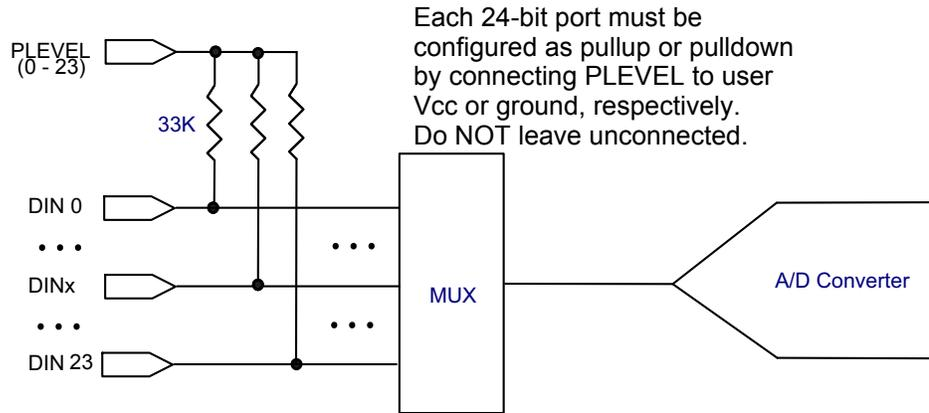
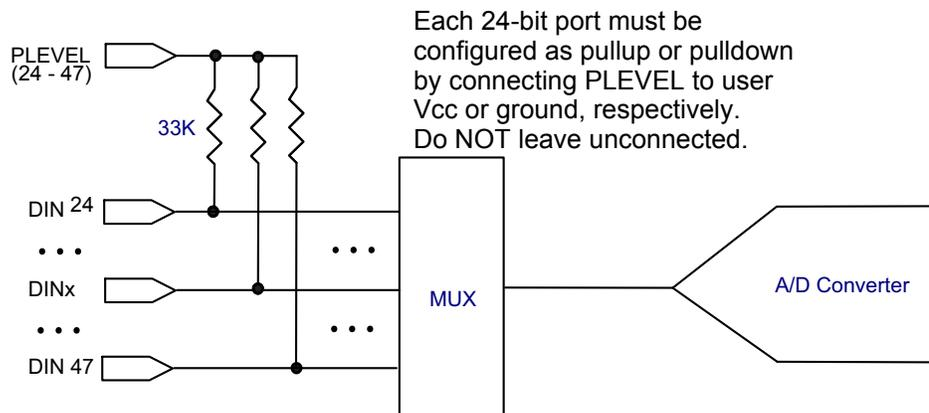

Figure 1-7. Typical Input Circuit Diagram for Channels 0 to 23 (Port 1)
Figure 1-8. Typical Input Circuit Diagram for Channels 24 to 47, Port 2
1.4.0.2 Input Circuits Each input circuit is configured as shown in **Figure 1-7** or **Figure 1-8**.